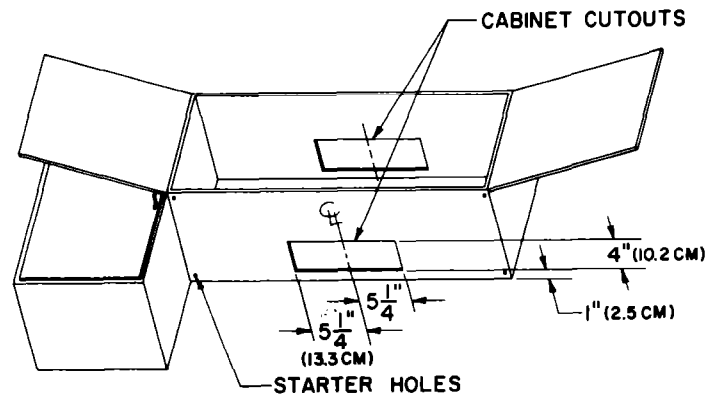

FIG. 2
2. Cut holes at marked locations to accommodate ventilating duct and electrical wiring. Allow  $\frac{1}{8}$ " (1.91 cm) extra on ventilating opening toward the front of the cabinet directly above the hood (See Figure 2). Be sure to minimize openings through the outside walls or ceiling. These will have to be sealed later.